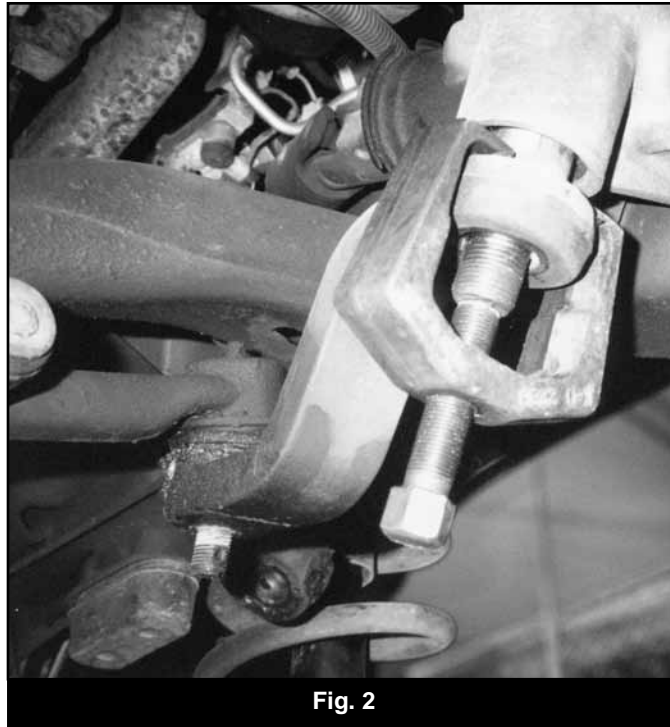

Fig. 2
13. Remove the pitman arm nut from the sector shaft. Note the orientation of the pitman arm and remove the arm from the sector shaft using the appropriate puller (Fig 2).